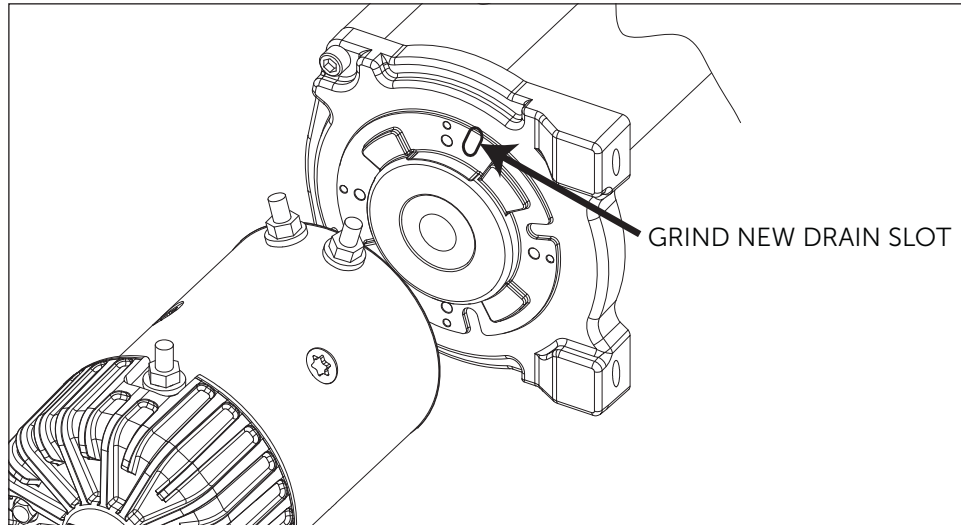

Figure 16
- A. You will need to mount the winch feet FORWARD as opposed to feet down. Remove the 10 screws from the end housing to remove the winch motor. It is recommended to grind a new drainage slot in the location shown (fig. 16)